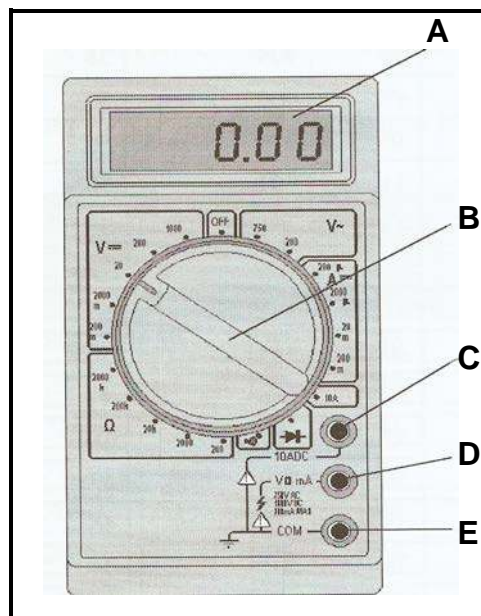

FIGURE 2.1
- 2.3 FIGURE 2.1 below indicates a multimeter that is used to test different electrical components and circuits. Label parts A–E on the multimeter. (5)